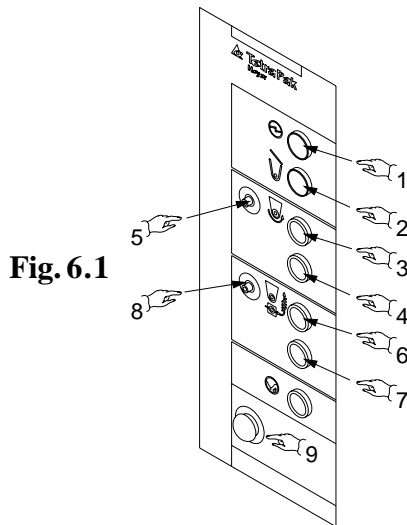

Fig. 6.1
- c. Start the vane pump and screw feeder motors by pressing luminous buttons (*Part.3/6, Fig.6.1*) respectively, in that order.